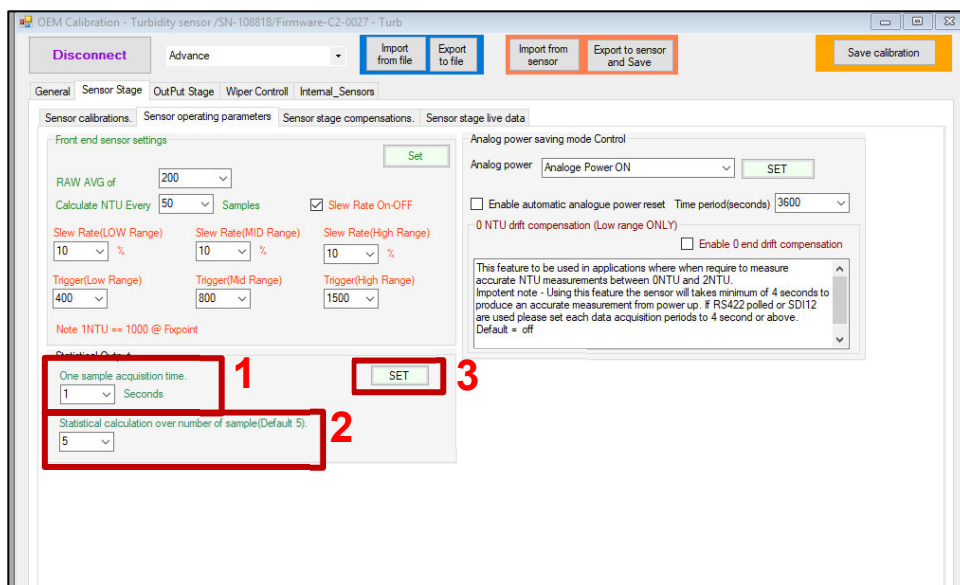

Figure 7.G: Polled mode address
2. Statistical data-length (Figure 7.G: #2)